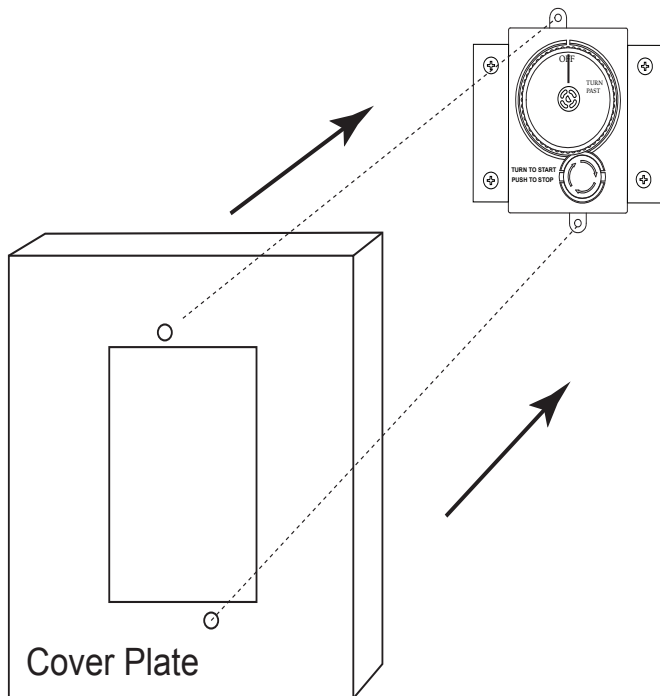

Fig. 5 Installing cover plate.
Step 6: Install the cover plate overtop of the ESTOP gas timer. Align the holes in the cover plate with the holes in the ESTOP gas timer (top and bottom) and install the two (2) mounting screws (#10-24x6.25 SS Phillips screws) to secure the cover plate as shown in Figs. 5 and 6.